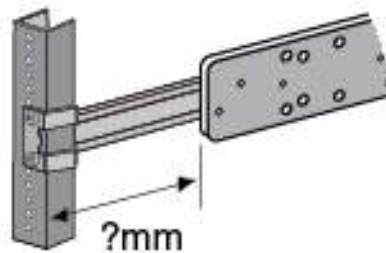

Figure 88. Measuring for the Extension Brackets
3. Measure the distance from the front of the equipment rack to the front of the inner rail. This will be the approximate length of the extension brackets. Refer to Figure 88.